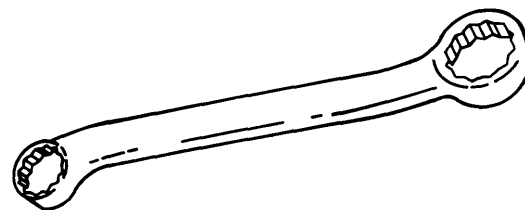
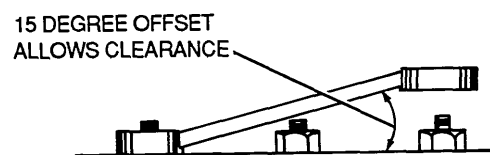

Figure 4-22. Box End Wrenches
Figure 4-23. Box-End Wrench Offset
(2) Box-end wrenches. Box-end wrenches have a head on each end of a bar, as shown in figure 4-22. The head completely surrounds the nut or bolt, which decreases the chances that the wrench will slip off the work. Box-end wrenches are available with 6-point and 12-point openings. These openings are offset from the shank at a 15-degree angle to allow clearance, as shown in figure 4-23. A box-end wrench should be used whenever possible because it provides the best protection to both the user and the equipment. These wrenches are sized the same as open-end wrenches.